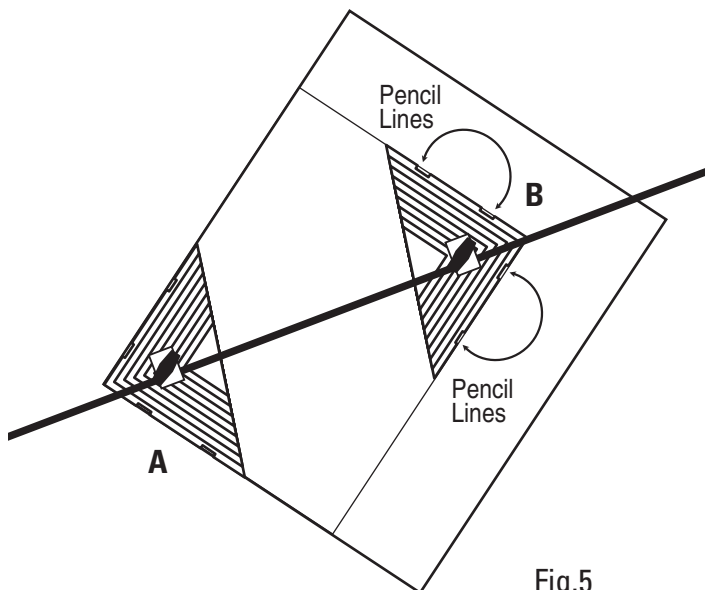

Fig.5
Step 3 – Remove the sizing tool from the frame making sure the position of each Triangle does not change. Place Fit-N-Frame Border Guide on the back of the mat board by aligning Triangle A with the bottom left hand corner of the board. (Fig. 5)
Step 4 – Next draw a line within the two short recesses of Triangle B. These lines are the outside dimensions of the mat. (Fig. 5)